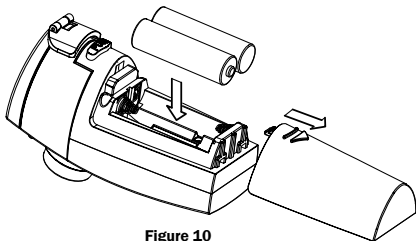

Figure 10
- Slide the battery cover off in the direction of the arrow as shown in the illustration. *See Figure 10.*